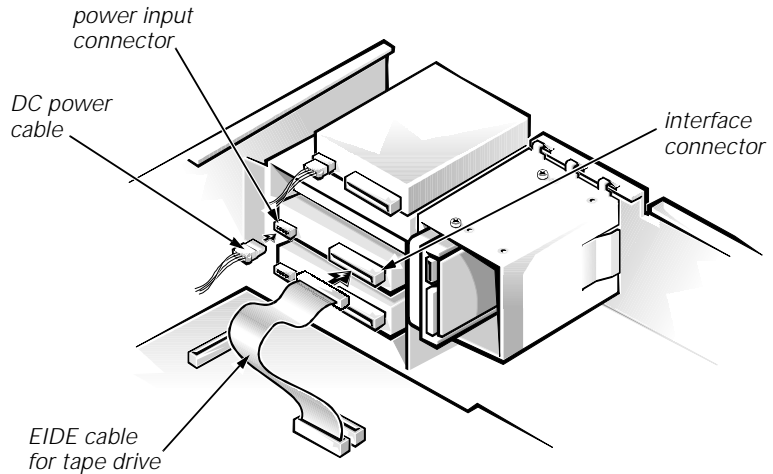

Figure 10-8. Attaching EIDE Tape Drive Cables
- 7. Connect a DC power cable to the power input connector on the back of the drive (see Figure 10-8).**
- 8. Connect the appropriate interface cable to the interface connector on the back of the drive (see Figure 10-8).**